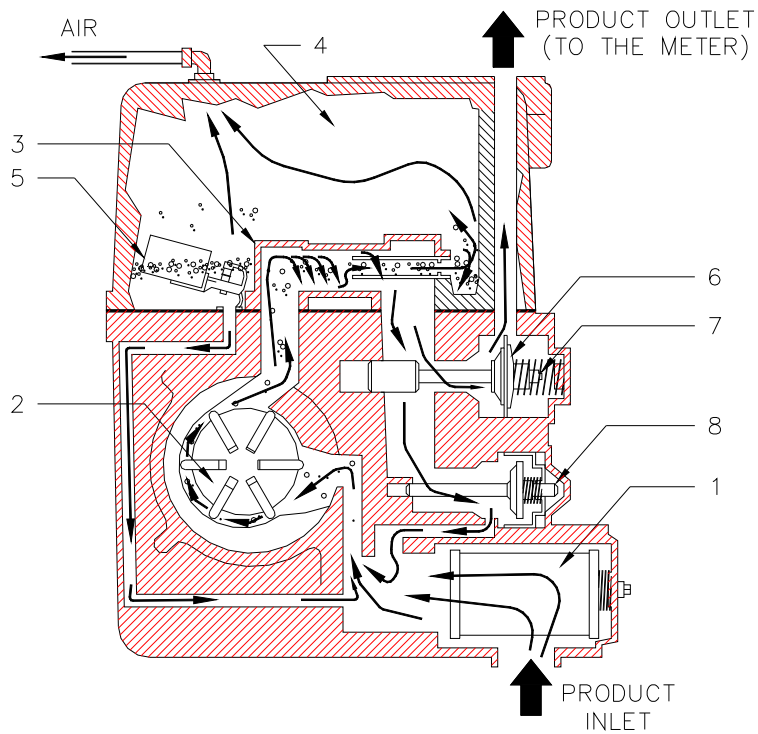

Figure 8
*(See Figure 8 for numbers in parenthesis.)*